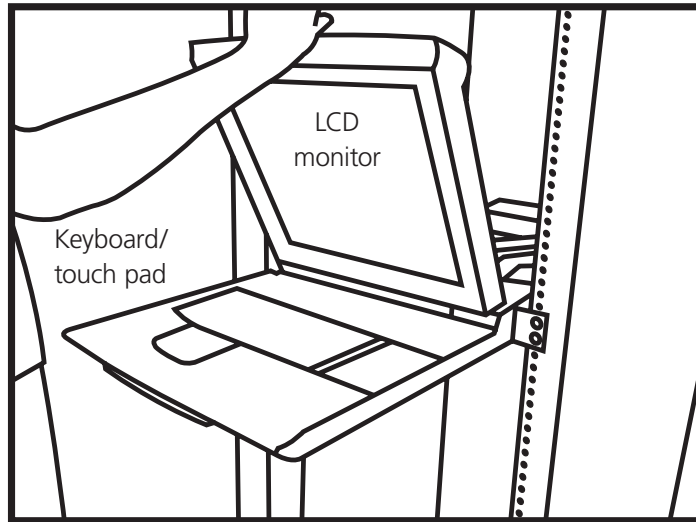

Figure 4-6. Lift out the LCD panel.
2. When it rests at the position you want, lift out the LCD panel at an angle appropriate for screen display. See Figure 4-6.
3. Tilt the monitor to an appropriate viewing position. See Figure 4-6.